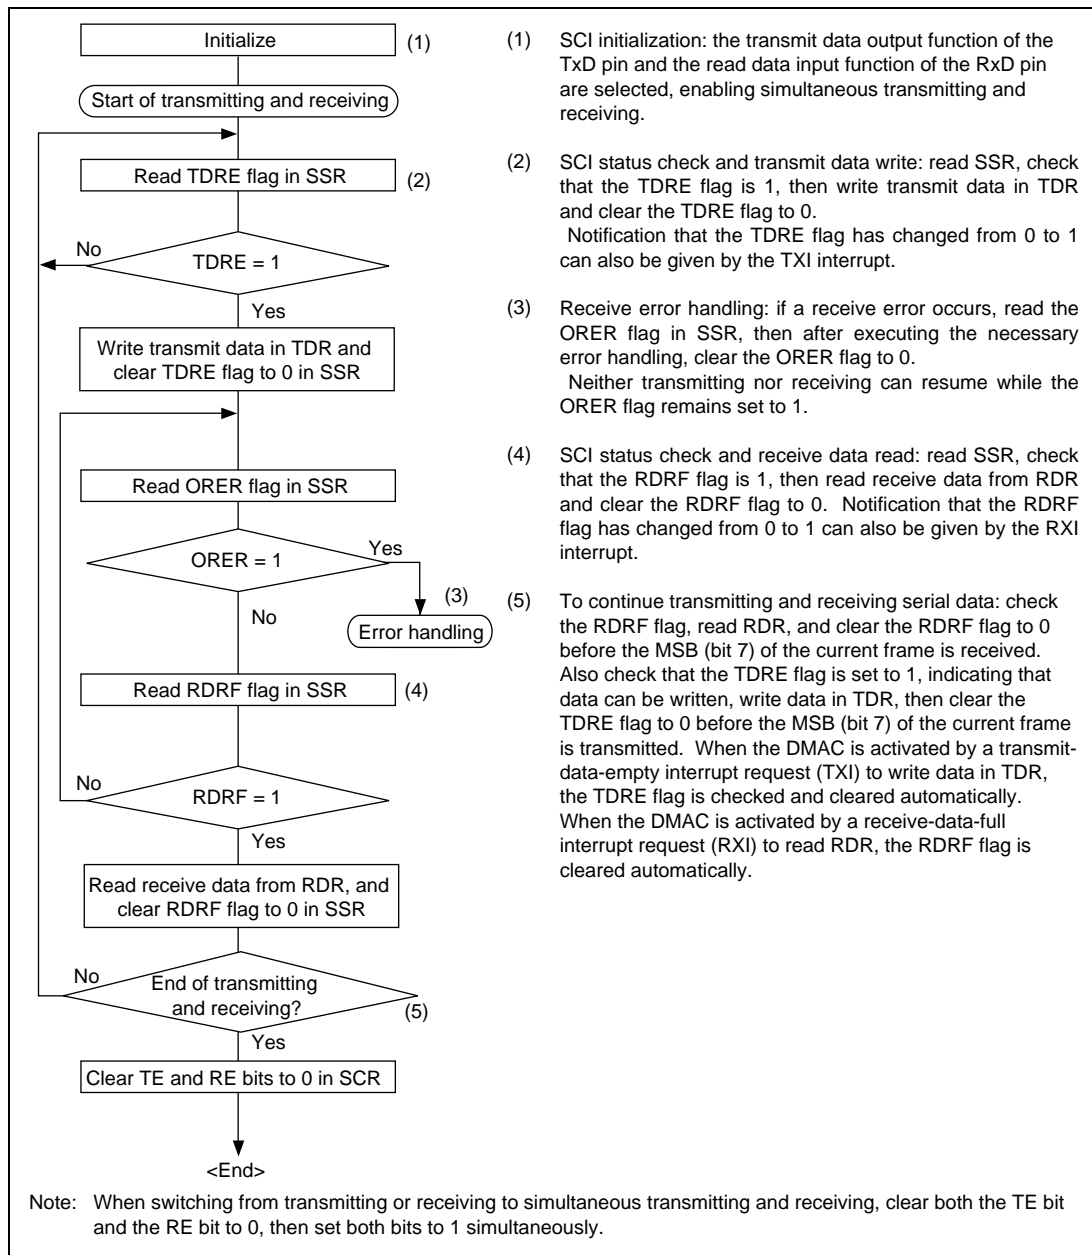

Figure 13.20 Sample Flowchart for Simultaneous Serial Transmitting and Receiving
- **Transmitting and Receiving Data Simultaneously (Synchronous Mode):** Figure 13.20 shows a sample flowchart for transmitting and receiving serial data simultaneously and indicates the procedure to follow.